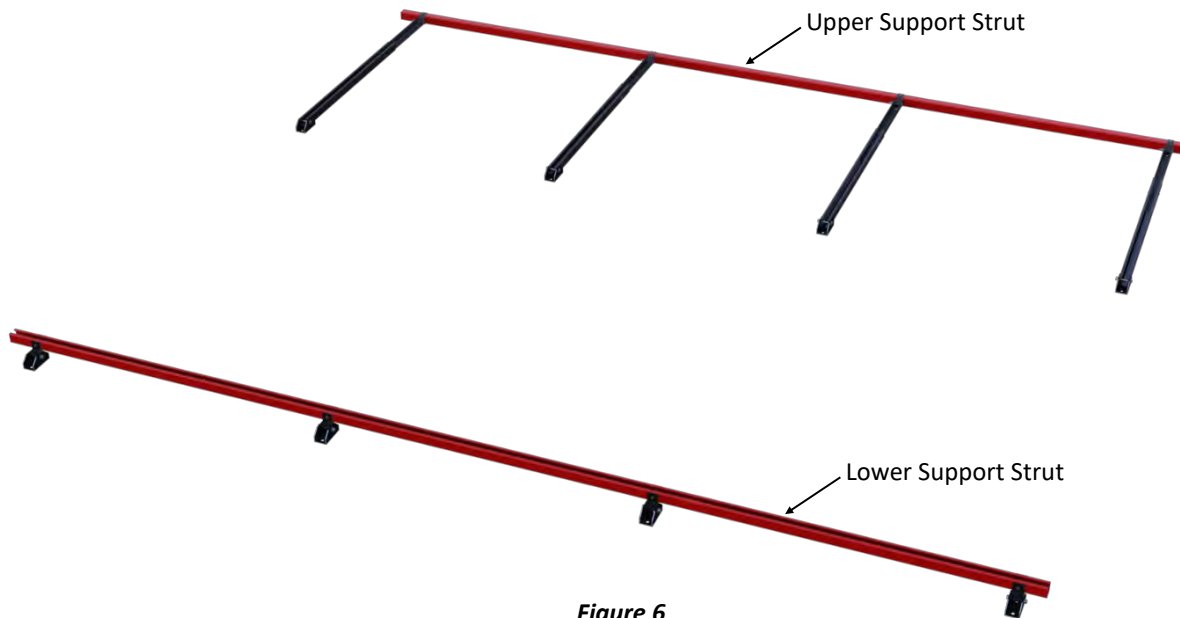

Figure 6
7. Swing Rear Telescoping Leg Assemblies with Upper Support backwards and lay flat on mounting surface as shown in *Figure 6*.